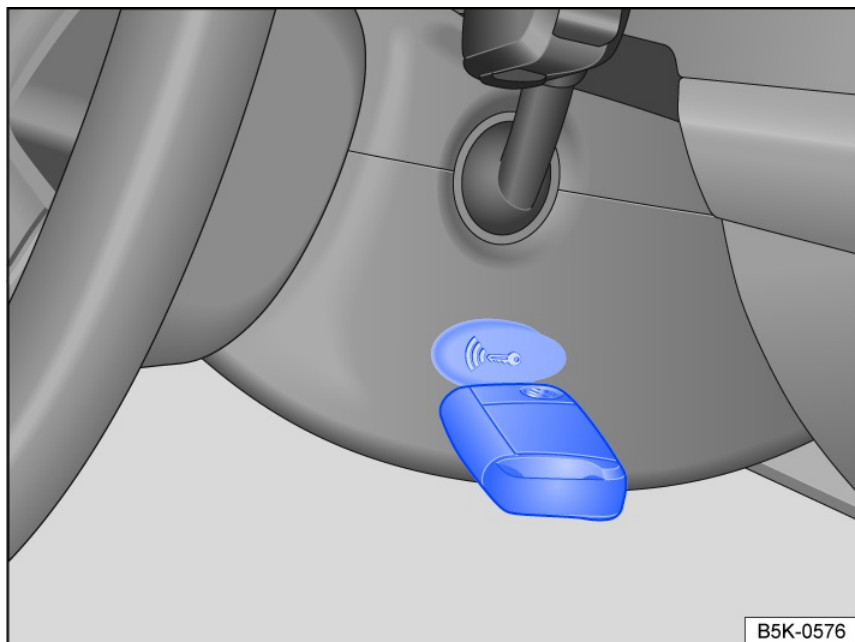

Fig. 116 On the right side of the steering column: emergency start function on vehicles with Keyless Access with push-button start.
- Hold the vehicle key on the right side of the steering column trim panel immediately after pressing the starter button fig. 116.